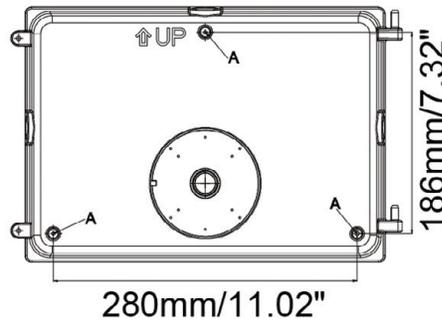
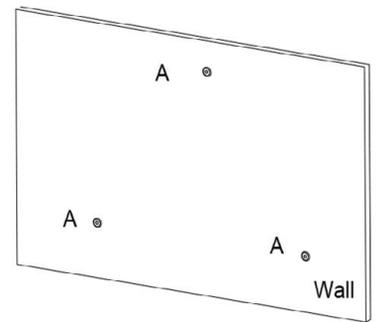

Fig2
Fig3
**Step 2 Method A:** Drill holes at the three "A" mounting points on the rear housing (Fig2) and drill holes on the wall as per the hole locations on the rear housing (Fig3).